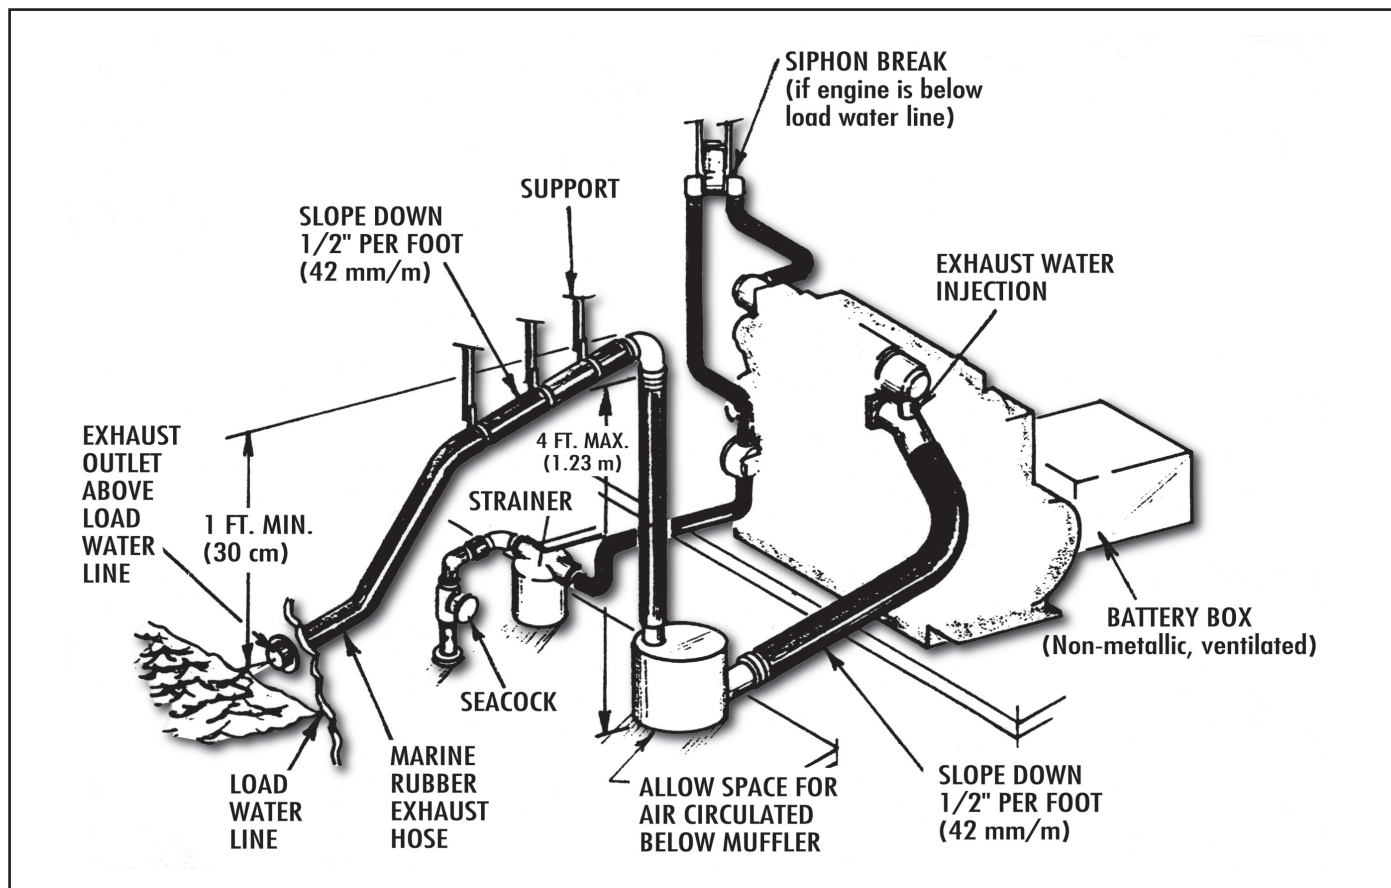

Figure 1. Properly installed wet exhaust system.
Before you install your new generator, you must decide whether a dry or wet exhaust system is best suited to your boat. In a dry system, exhaust gases are simply vented to the outside through an insulated pipe. A wet system is more complicated, because exhaust gases are cooled by water before they leave the boat. Plumbing a wet exhaust system incorrectly is a major cause of generator set failure (see Fig. 1).
**4. Maintain a slope of 1/2" per foot in your exhaust lines** from the manifold to the muffler (Fig. 1-A) and from exhaust loop to outlet (Fig. 1-B) to ensure proper drainage.